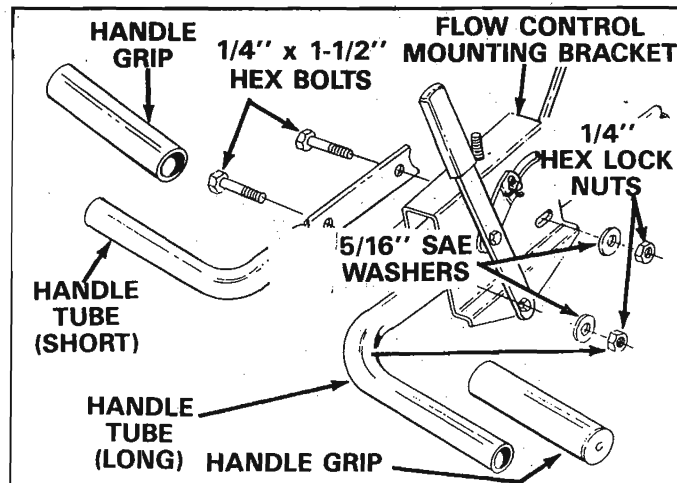

FIGURE 14
23. Place handle grip on each handle tube. See figure 14.